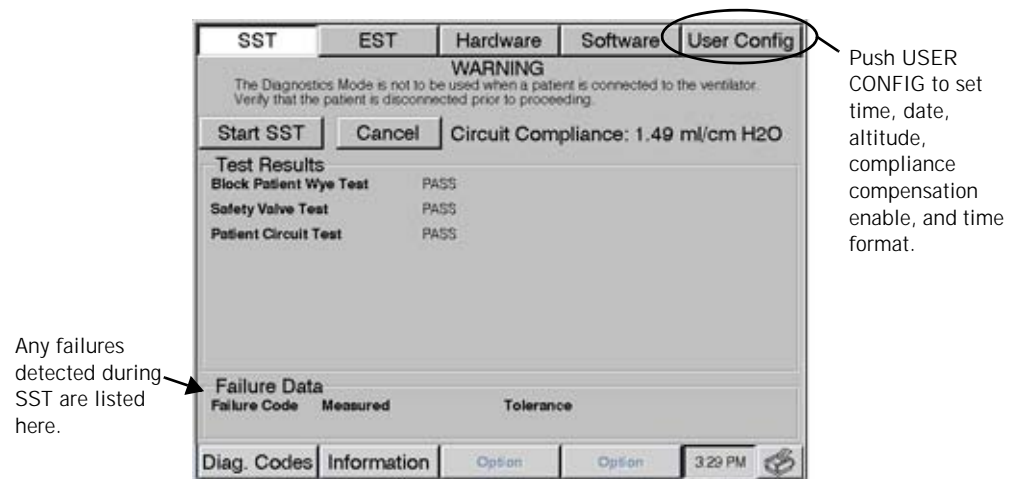

Figure 8-37: SST Results
7. Push USER CONFIG to check time, time format, date and altitude and set compliance compensation as required (Figure 8-37).
9. During SST, as each test is performed, the ventilator displays test results (Figure 8-37). Do not proceed until the ventilator completes SST without failures.